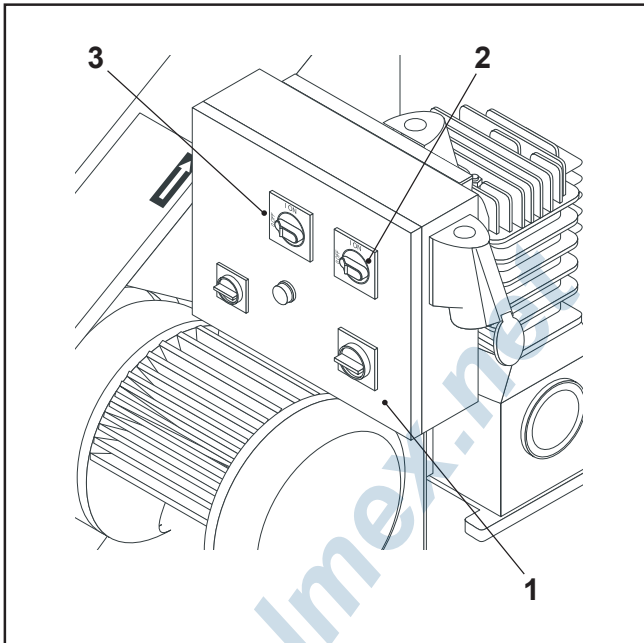
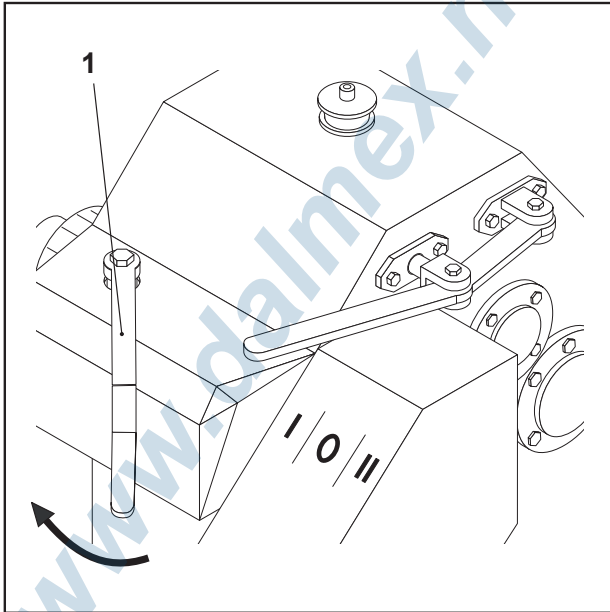

FIG.32
FIG.39
Activate the mixer by acting on the mixer switch (FIG.32-REF.3) and prepare the mixture.
Activate the motor taking the master switch (FIG.32-REF.2) into position "I", the machine starts to pump.
Switch the machine off (take the mortar pump motor switch and master switch (FIG.32-REF.1) into position 0). Remove the cause of the overload (mixture unsuitable or blocking of pipes or the gun) and then re-insert the safety device by acting on the lever (FIG.39-REF.1).
- Position the master switch (FIG.32-REF.1) in position 0 (zero). In the EMF version, before switching the machine off, put the mortar pump motor (FIG.32-REF.2) and mixer (FIG.32-REF.3) switches at 0.